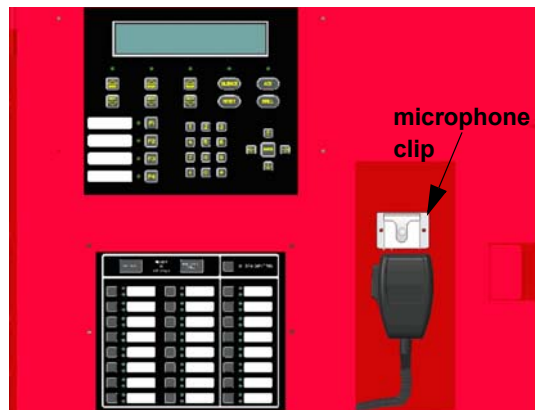

Figure 6 Microphone with the Microphone Clip
1. Insert and connect the microphone into the microphone clip. See Figure 6.